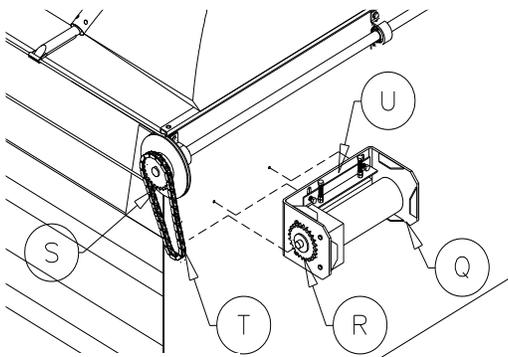

Figure 19
Note: The 4" sprocket (S) is to be located on the passenger side of the front shaft (see Figure 19).
Procedure: Mount the motor bracket (Q) on the front passenger side of the trailer. Hang the chain (T) from the front shaft #40x24 sprocket and the #40x24 sprocket (R). Stretch out the chain until the appropriate tension and positioning are achieved. Align the #40x24 sprocket (R) with the #40x24 sprocket (S). Using a 3/8" drill bit, drill through the lower end of the slots in the motor bracket (Q) and through the front of the trailer (see Figure 19). Fasten the motor bracket (Q) and motor tensioner brackets (U) (top of the bracket) to the trailer with the 3/8"x1-1/2" hex bolts, 3/8" flat washers, and 3/8" nylon lock nuts provided.